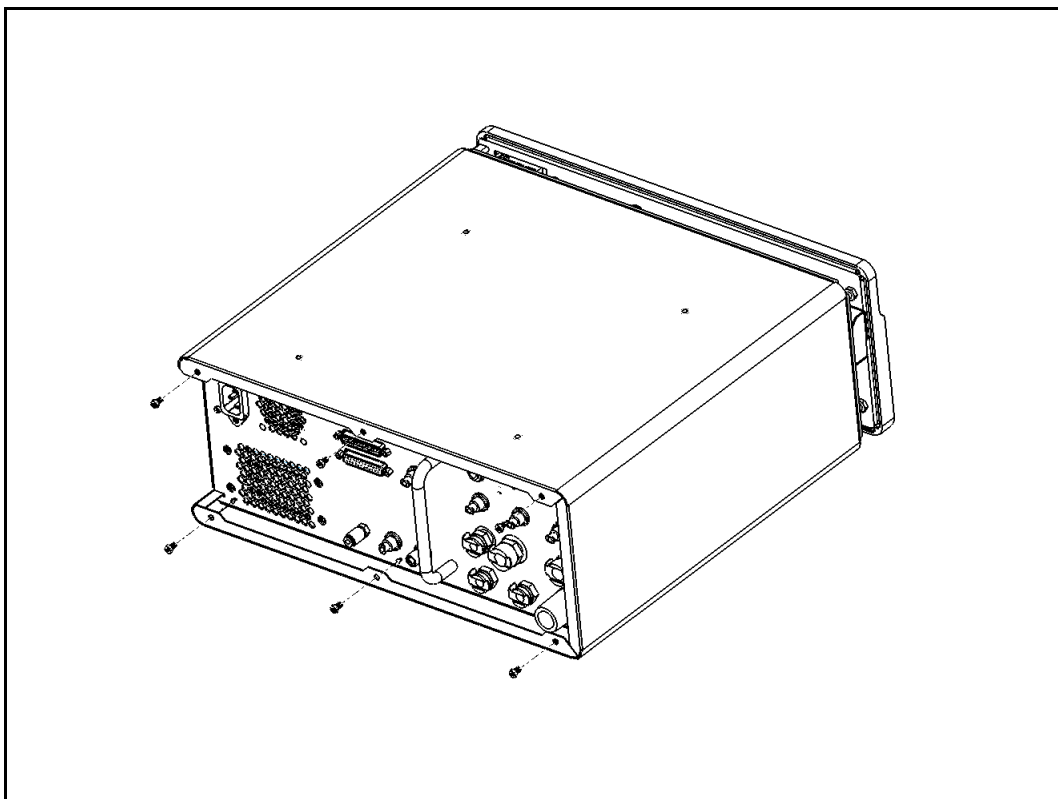

Figure 3-8 Cover Screws
2. Remove the cover retaining screws from the back of the Vmax module (Figure 3-8), and gently remove the cover.